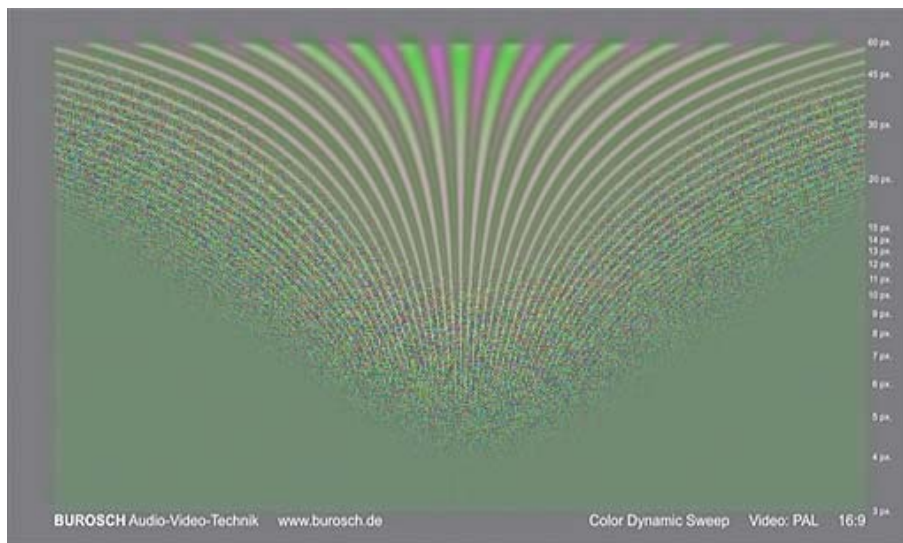

fig. 2: composite signal present – in this example color contingent and luminance signal becomes mixed up so that they never be completely separated.
- fluttering color border – composite signal in signal path (FBAS, CVBS) (figure 2)